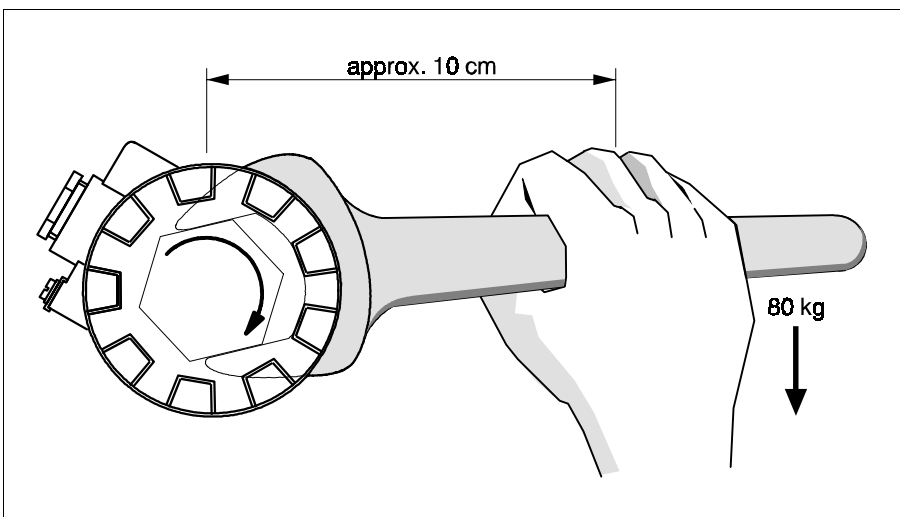

Fig. 13
- A torque of 80 Nm... 100 Nm is normally sufficient to produce a reliable seal to withstand pressures up to 6 bar. See Fig. 13.